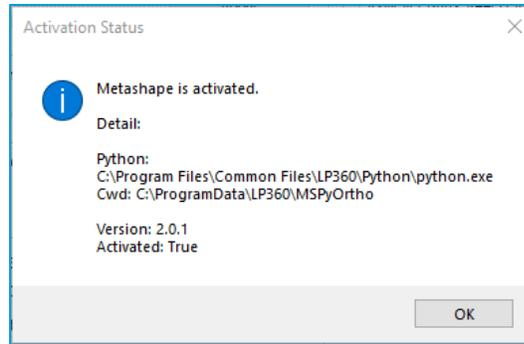

Figure 15 – Agisoft Ortho Mapping Activation Status - Activated
5. You should see an Activation Status message (Figure 15) indicating, "Metashape is activated". Select *OK*.